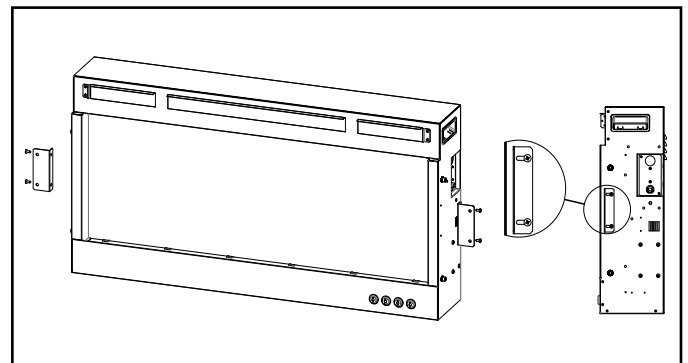
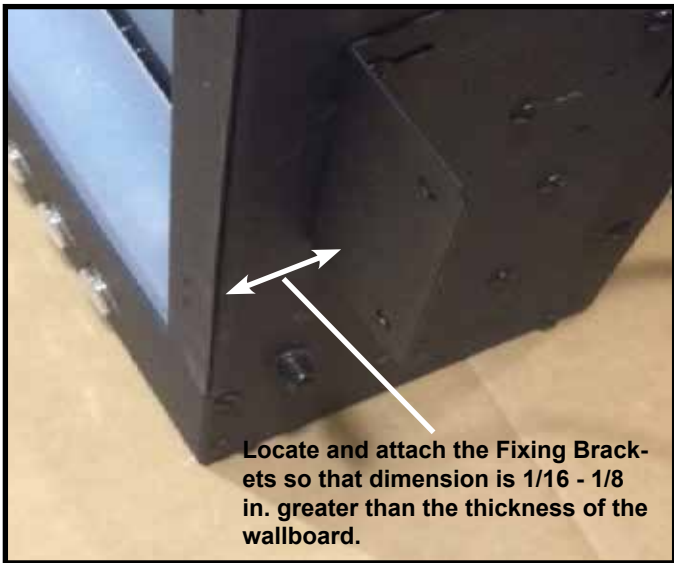

Figure 4.3 Fixing Brackets Attachment for Recessed Mounting in 2 X 6 in. Framing
Figure 4.4 Adjust Bracket Location
2. Verify that the Fixing Brackets are securely attached to the appliance with four (4) ST4X10 screws and washers. See Figure 4.3. The attachment holes for the brackets into the appliance are slotted to allow adjustment for the thickness of the wallboard and/or any finishing materials up to a total 5/8 in. thick. It may be necessary to test fit the appliance and adjust the location of the brackets on the appliance so that the front face of the unit protrudes 1/16 to 1/8 in. from the outside face of the finished wall. See Figure 4.4 and 4.5.